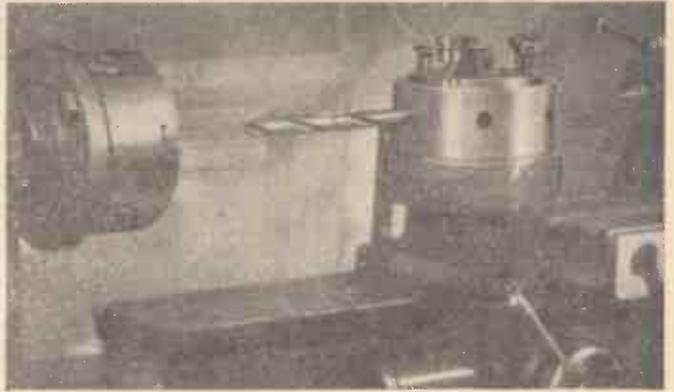
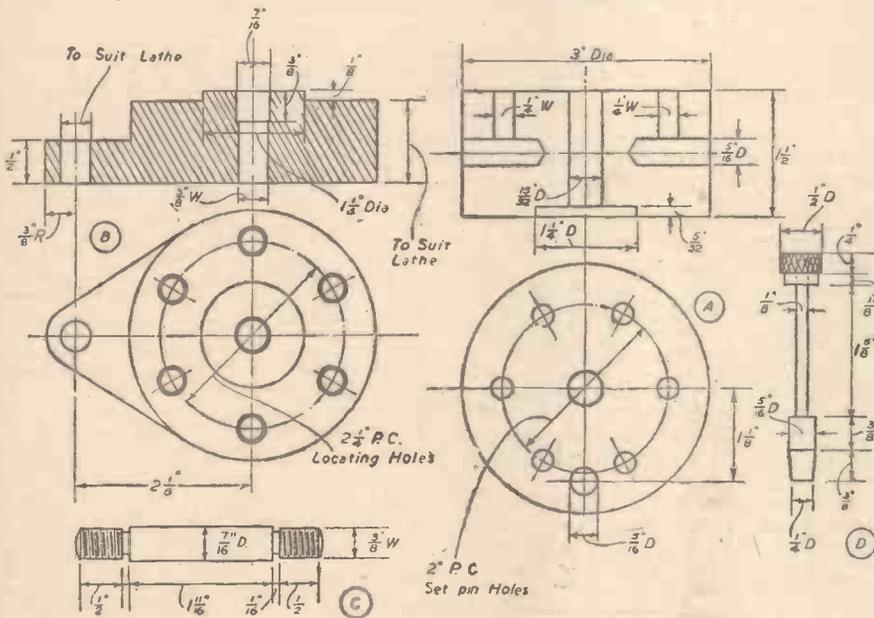

Fig. 1. The turret mounted on the cross-slide of a lathe.
Fig. 2. Details of the component parts for a small turret.
Figs. 1 and 2.—One- and two-coil-per-slot grouping.
If it were necessary to still further stress the advantages of former winding it is that the method lends itself particularly well to grouping two or three coils per slot and saving considerable trouble with their interconnections. For example, the typical shape of any former-wound coil is seen in Fig. 1. This is a single coil, but if they are to be grouped two per slot, instead of cutting the wire when the required number of turns have been wound for the first coil, a loop is taken out long enough to reach the commutator as at Fig. 2, and the second coil continued until complete. The interconnections between coil 1 and coil 2 are thus automatically made, and since the ends of the double coil can be taped up as though it were one coil it becomes much easier to assemble in the armature slots than if wound as two separate and independent coils, besides saving work in connecting up later on.
Fig. 1 shows the complete turret, and in Fig. 2 the details of each part are given. As shown in Fig. 2, part (A) is the rotating toolholder, and is drilled to take six tools made from 5/16in. diam. steel rod. They
The arrangement of the locating plunger, part (D), is also shown in Fig. 2. The various parts are turned from M.S. bar, the plunger being a sliding fit in the hole. The plunger and rod are turned from the solid and the knurled top is screwed on.
In Fig. 2 the centre spindle is shown in detail.
The photograph (Fig 1) shows the turret in position on the lathe. It will be noted that the fixing bolts are of various types, this being due to the shortage of bolts about 1941, when the turret was finished.